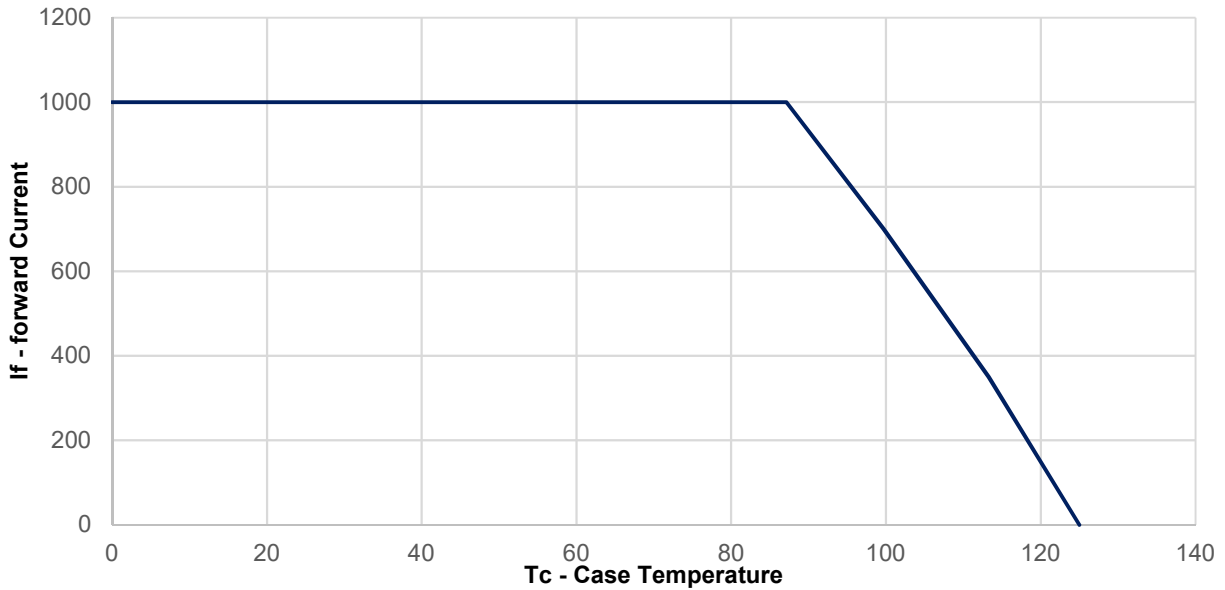

Figure 11: Maximum forward current vs. case temperature based on $T_{J(\text{MAX})} = 125^\circ\text{C}$
- Maximum DC forward current is determined by thermal resistance and case temperature. Follow Figure 11 for current derating.
Notes for Figure 11: